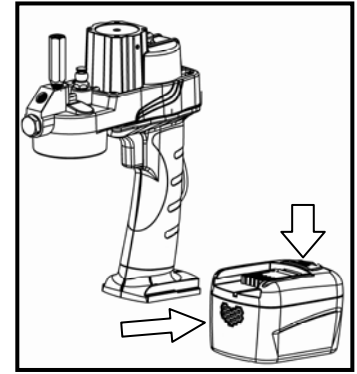
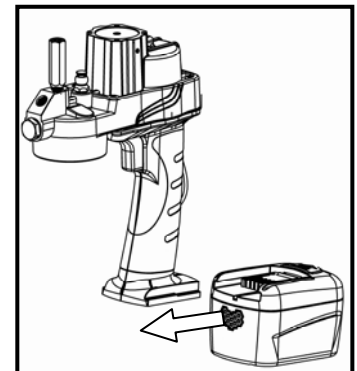

Fig.1
Fig.2
## Operating Instructions (Slide-In) Installing Or Removing Battery pack (See Fig.1 Fig.2)
2. To remove the battery pack, push the button on the battery pack and pull the tool unit from the battery pack in the direction.(See Fig.1.)
3. To insert the battery pack, align the tool unit slides with the battery pack sliding groove and push the tool unit into place. (See Fig.2)
1. Draw back plunger handle fully until the groove of piston rod is latched into the slot on the tube cap. See Fig.1.
3. Slowly release the plunger handle to eject the empty cartridge from the container tube. Visually check the direction of plunger lip. See Fig.2. Draw back plunger handle fully until the groove of piston rod is latched into the slot on the tube cap.
2. Visually check the direction of plunger lip. Fig.2